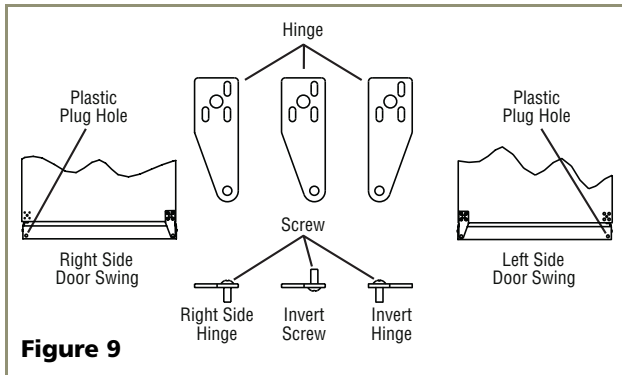

Figure 9
8. Remove plastic hole plug (**Figure 9**) from door handle and relocate on opposite side.